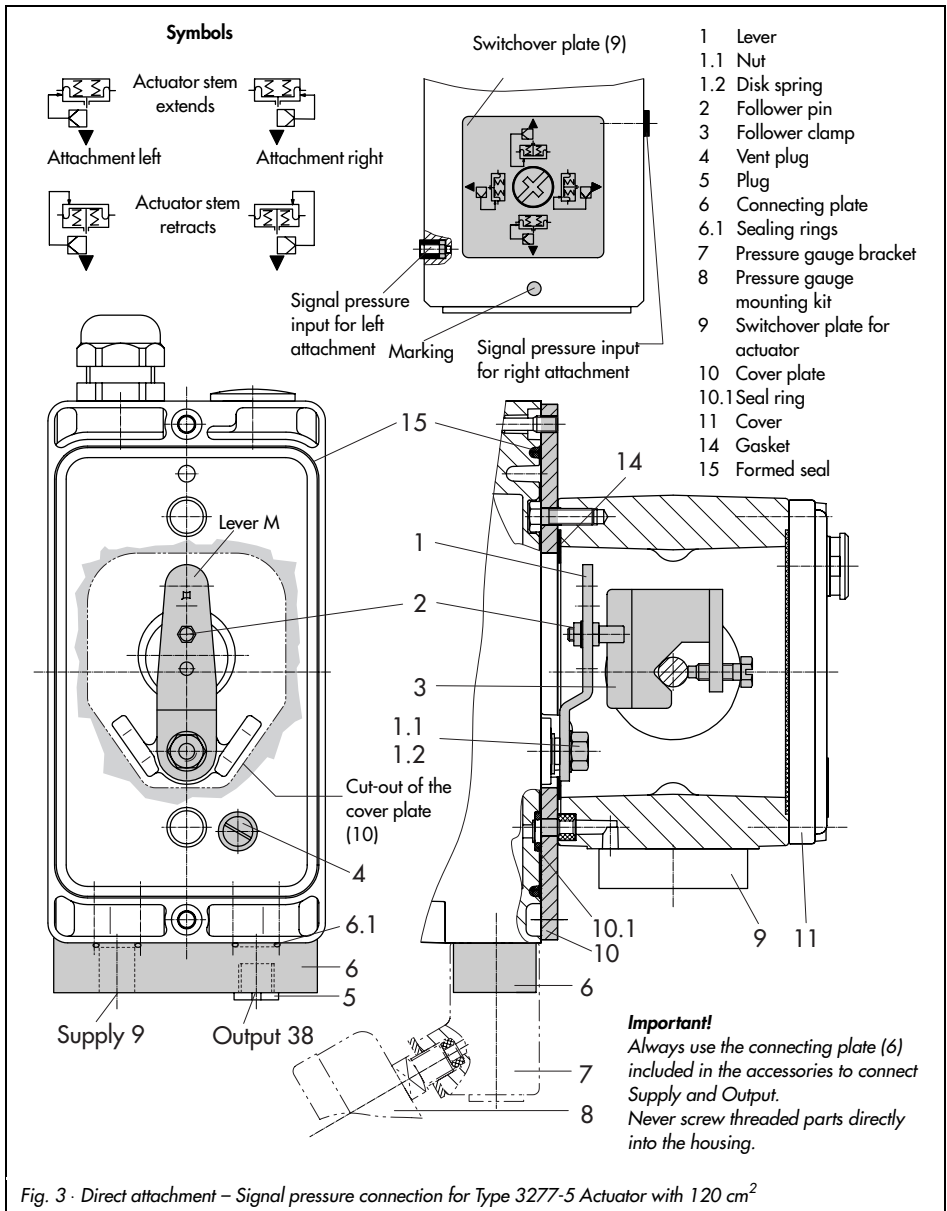

Fig. 3 · Direct attachment – Signal pressure connection for Type 3277-5 Actuator with 120 cm2
1. Mount connecting plate (6) or pressure gauge bracket (7) with pressure gauges onto the positioner, making sure both seal rings (6.1) are seated properly.
2. Remove vent plug (4) on the back of the positioner and close the signal pressure output "Output 38" on the connecting plate (6) or on the pressure gauge bracket (7) with the plug (5) included in the accessories.
3. Place follower clamp (3) on the actuator stem, align and screw tight so that the mounting screw is located in the groove of the actuator stem.
4. Mount cover plate (10) with narrow side of the cut-out opening (Fig. 3, left) pointing towards the signal pressure